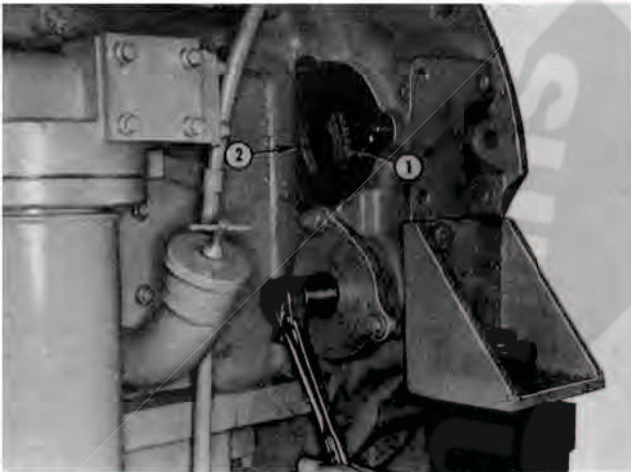

Fig. 2-34, (K21919). Engine barring device
3. When barring the engine from the left bank at the flywheel housing "C" VS timing marks on the flywheel (1, Fig. 2-34) must align with the scribe